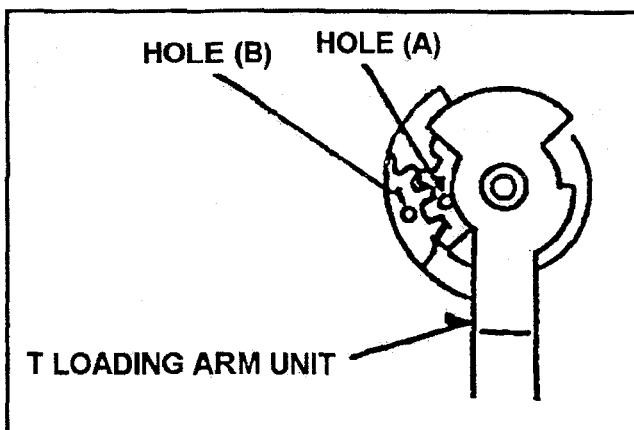

Fig. M17
2. When installing the T1 Boat Unit, the hole (A) should match hole (B) as shown in Figure M17.